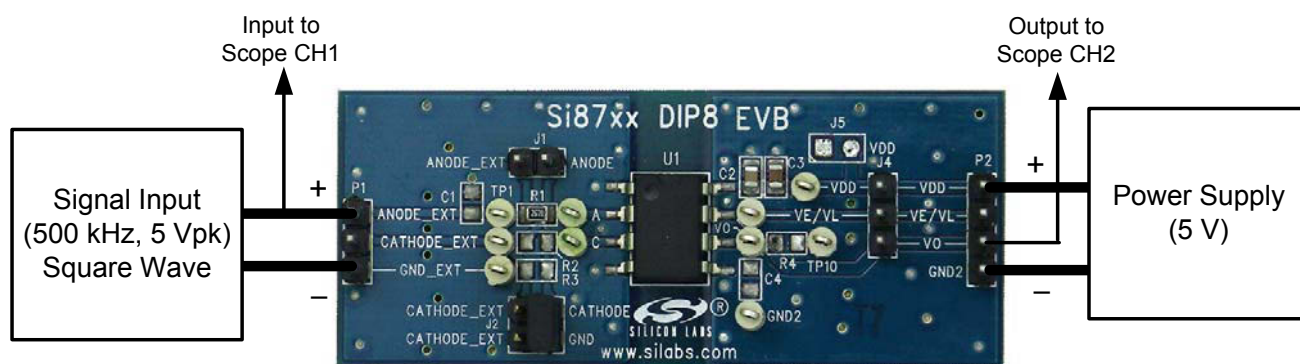
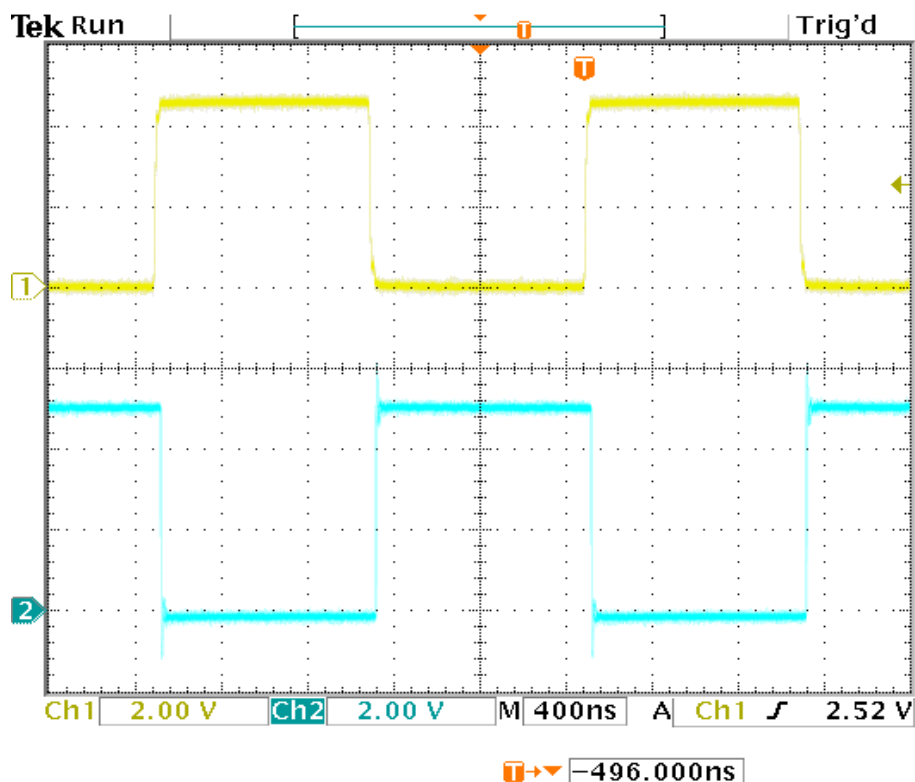
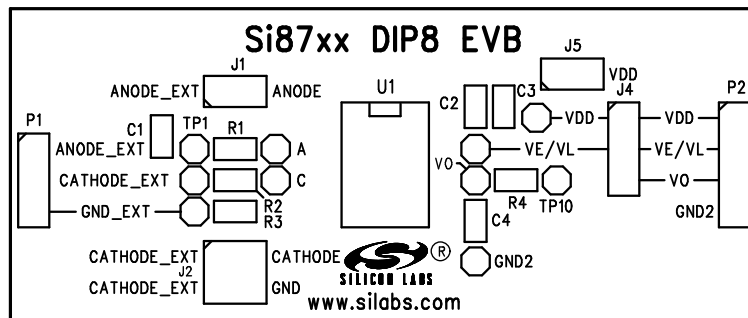
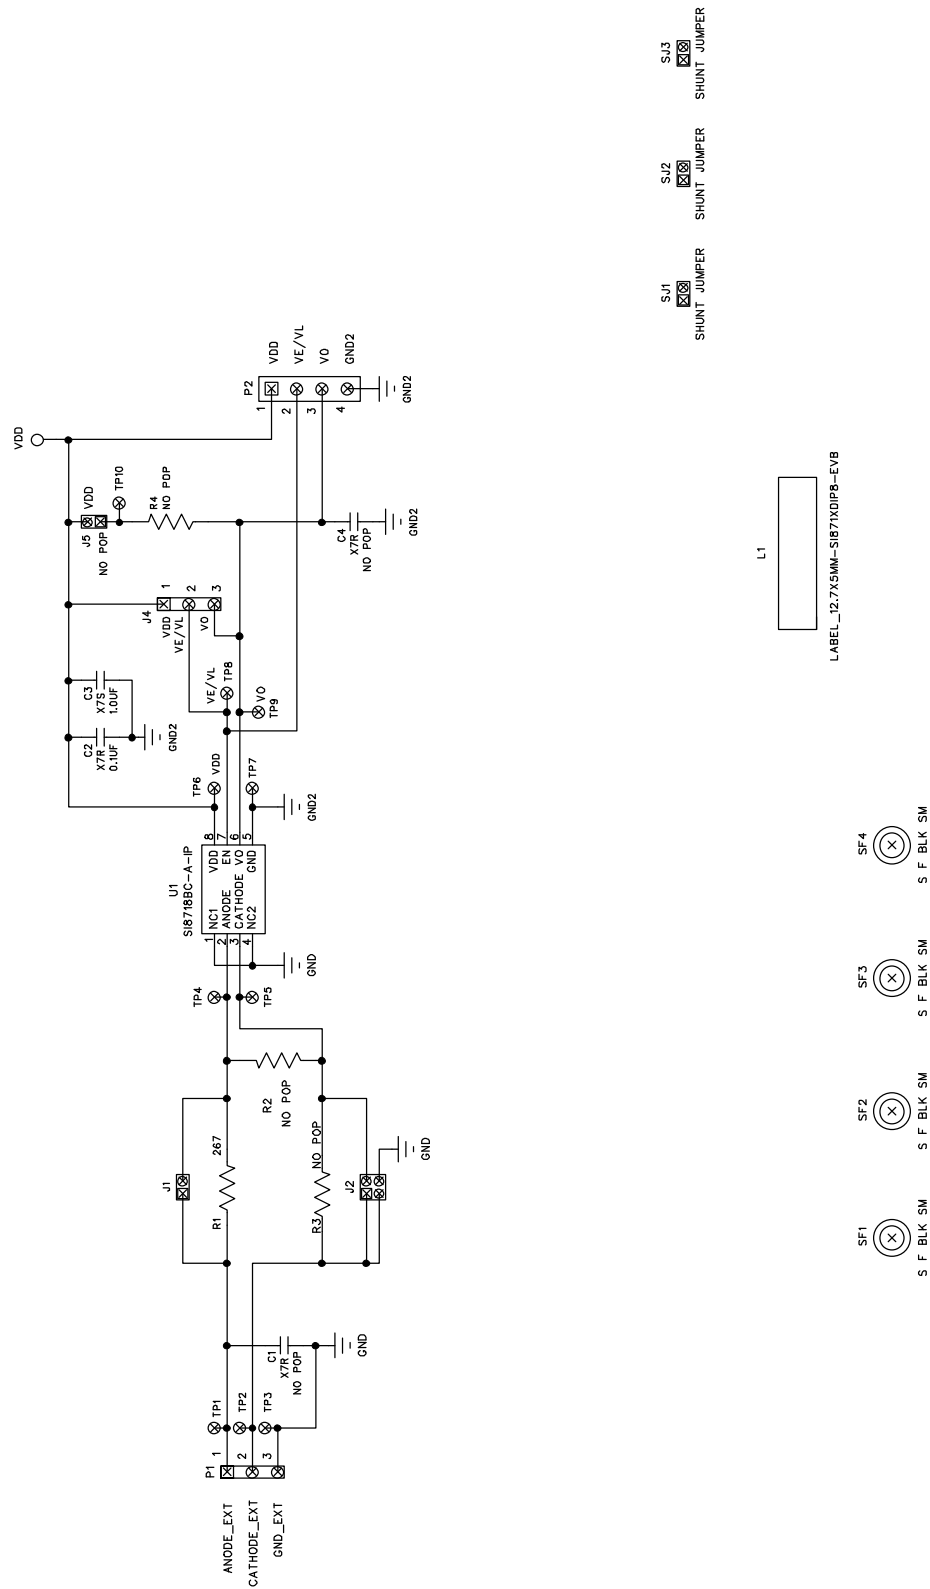

Figure 4. Summary Diagram and Test Setup
Figure 5. Oscilloscope Display of Input and Output
Figure 6. Si87xx DIP8 Evaluation Board Silkscreen
Figure 9. Si871x DIP8 Evaluation Board Schematic
Figure 4 illustrates the connection diagram to demonstrate the Si871x-DIP8 EVB. The other footprint boards demonstrate in a similar fashion. This demo transmits a 500 kHz (5 V peak, 50 percent duty cycle) square wave through the isolator to its output (Vo). In this example, VDD is powered by a 5 V supply. Figure 5 shows a scope shot of CH1 (input) and CH2 (output). Note that if a user wants to evaluate an LED Emulator Input isolator other than the ones prepopulated, this can be accomplished by removing the installed device and replacing it with the desired footprint-compatible isolator device.
To run the demo, follow the instructions below. Review Figure 4 and Figures 9 through 11 if necessary.
5. Adjust the level indicator for all channels to properly view each channel as shown in Figure 5.
A 500 kHz square wave should display on Channel 1 of the scope for the input and a 5 V delayed and inverted version of this square wave should display the output on Channel 2, as shown in Figure 5. This concludes the basic demo. For more advanced demos, see the following sections.
The Si871x evaluation board has several test points. These test points correspond to the respective pins on the Si871x integrated circuits as well as other useful inspection points. See Figures 6 through 8 for a silkscreen overview. See schematics in Figures 9 through 11 for more details.